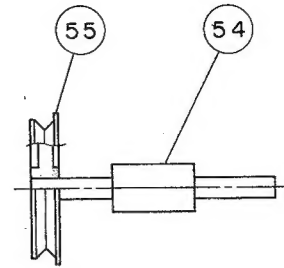

Figure 15
1. Worm gear (54) Assy
Pressing insert the Pulley (55) to the Worm Gear (54) so that the left end of the worm gear will be on the same level as the face of the smaller circle in the pulley (Fig. 15).